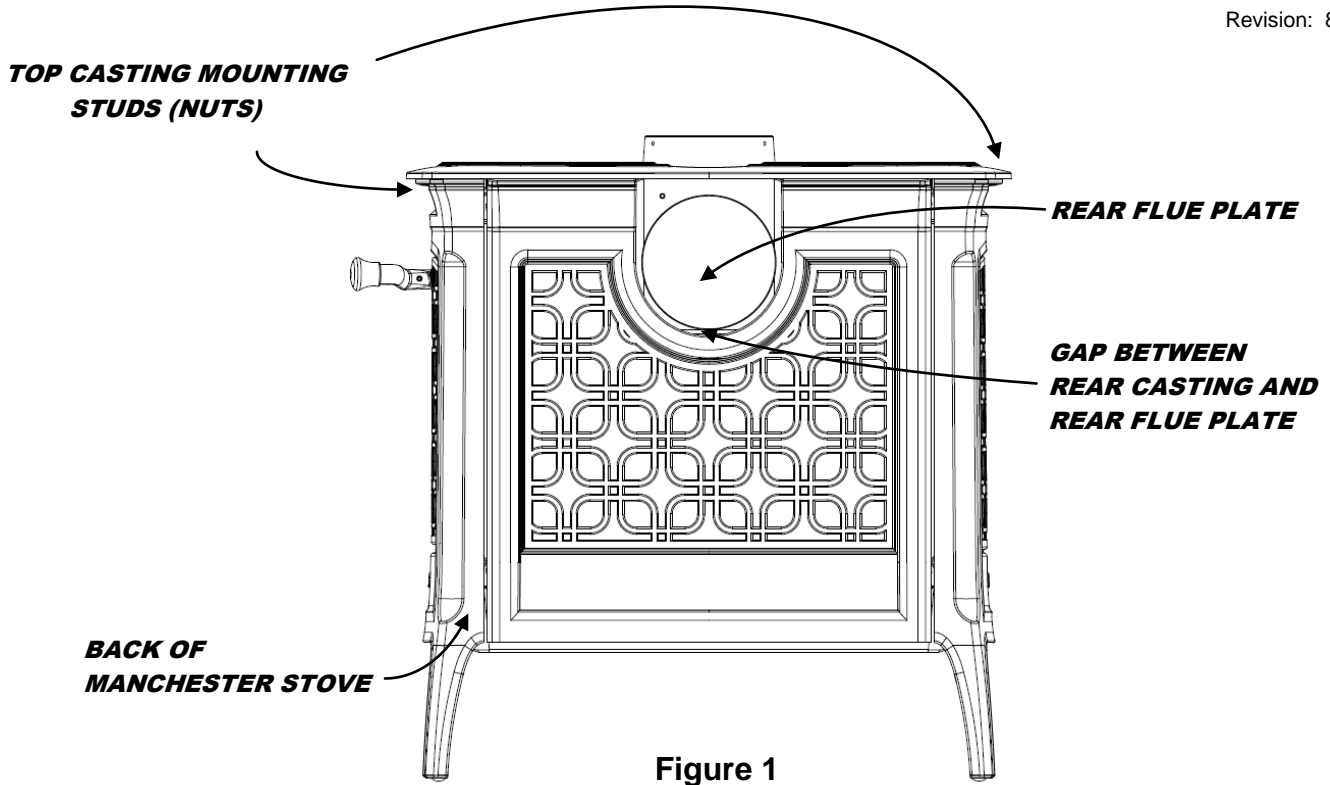

Figure 1
1. Remove the two 10-24 acorn nuts and washers attaching the top casting to the body of the stove using the 3/8" wrench (see Figure 1).